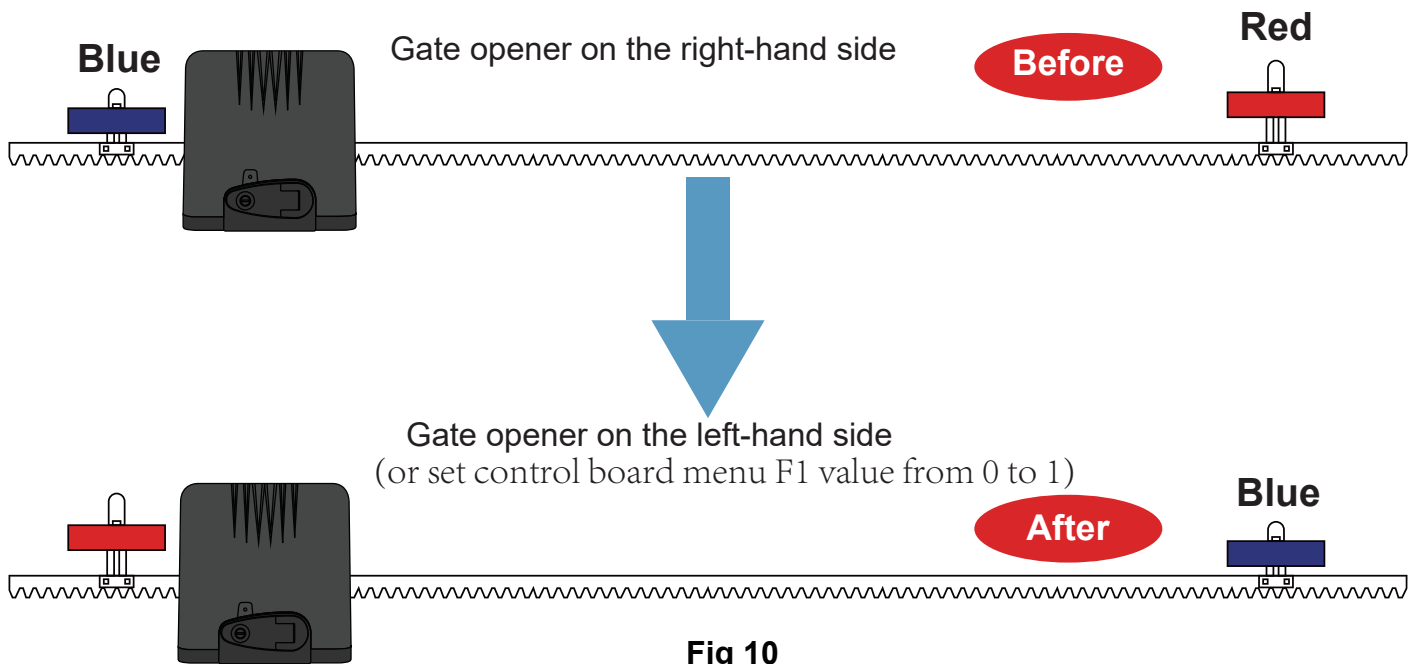
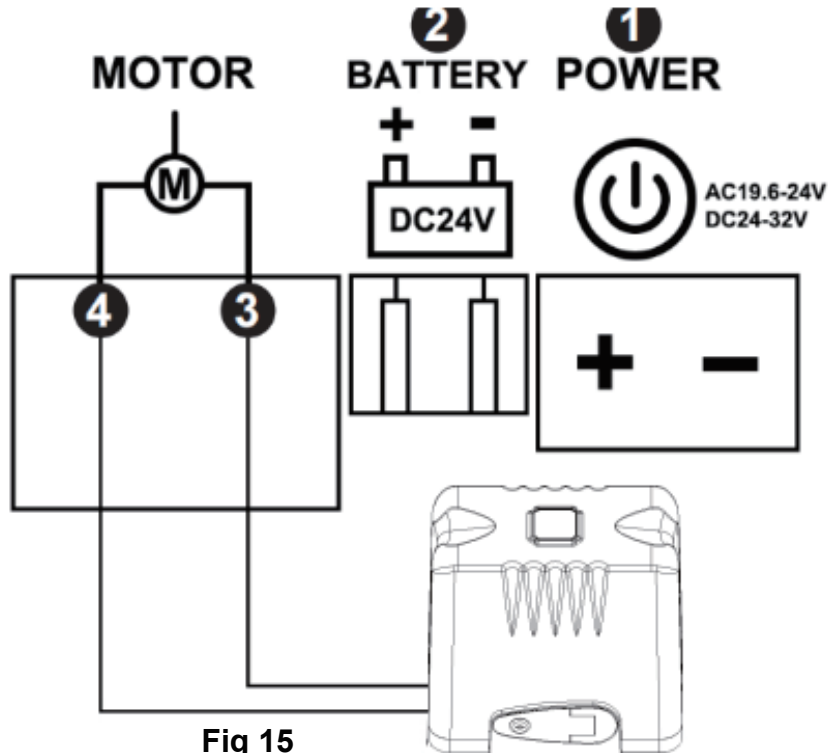

Fig 10
Fig 15
If your gate needs to open from the other direction (to the left, refer to Fig 6) your motor needs to be mounted on the left-hand side as shown, you will need to switch 2 wires of motor (Fig 15) at random. And swap over two magnets positions (Fig 10).
- ◆ Pull out the release lock part to be more than 90 degrees, now the gear and shaft are disengaged Refer to the figures below(Fig 10)